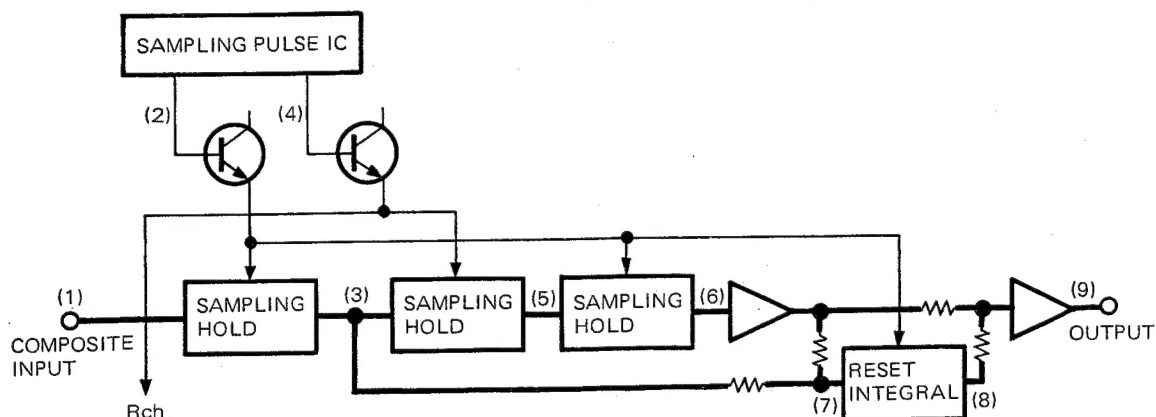

Fig. 4
- IC6 (Pins 5~7), Q13~16 : L-ch driver. 1/76 mS delay. Waveform (3)  $\rightarrow$  (5). See Figure 4.
- IC6 (Pins 1~3), Q17~20 : L-ch driver. 1/76 mS delay. Total delay 1/38 mS. Waveform (5)  $\rightarrow$  (6).
- IC8 (Pins 5~7) : Resets and integrates waveform obtained from the added waveform of the waveform (3) and the inverted waveform (6) [(3) - (6)].
- IC8 (Pins 1~3) : Synthesizes waveforms (6) and (8), and performs SCA rejection.